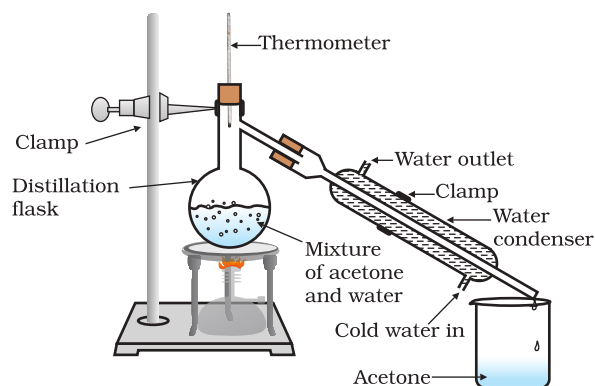

Fig.2.9: Separation of two miscible liquids by distillation
- Arrange the apparatus as shown in Fig. 2.9.